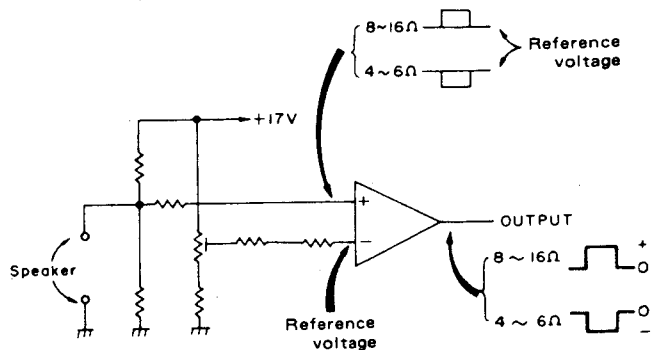

Fig. 5
While the relay (RLY302) is OFF, the speaker is in contact with the voltage comparing circuit. (Fig. 5)
The reference voltage is applied to the negative input terminal of operation amplifier (IC301), and the voltage of positive input terminal varies depending on the speaker impedance as shown in Fig. 5. The alteration of voltage is directly related with the output of operation amplifier. Usually the unit is adjusted so that the output voltage is zero with 6Ω speaker connected, and the output voltage of operation amplifier becomes negative with 4Ω speaker connected, and the output voltage becomes positive with 8Ω speaker connected. Only when the voltage is negative, Q306 and RLY 302 turn ON, switching the secondary side tap voltage of power transformer to 28.7V.
- (3) Insert claw ③ of bottom board into claw hole ③ of rear panel. [See Fig. 5.]
- (4) Secure it with 6 setscrews.
[Fig. 5]